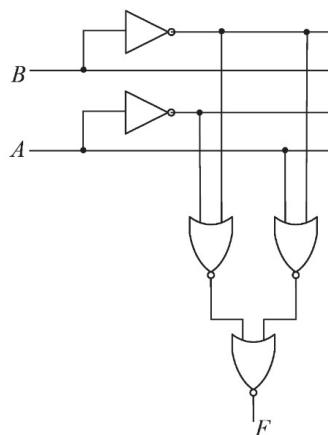

Fig. 3.16
31. The logic block shown in Fig. 3.16 has an output F given by _____. (GATE IN 2021)